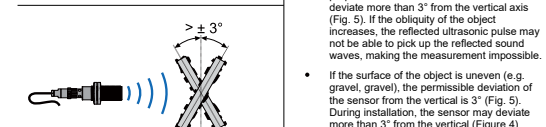
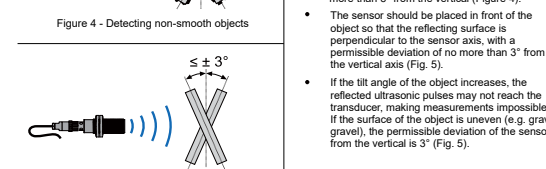

Figure 4 - Detecting non-smooth objects
Figure 5 - Detecting smooth objects
- The sensor should be placed in front of the object so that the reflective surface perpendicular to the sensor axis does not deviate more than 3° from the vertical axis (Fig. 5). If the obliquity of the object increases, the reflected ultrasonic pulse may not be able to pick up the reflected sound waves, making the measurement impossible.
- If the surface of the object is uneven (e.g. gravel, gravel), the permissible deviation of the sensor from the vertical is 3° (Fig. 5). During installation, the sensor may deviate more than 3° from the vertical (Figure 4).
- The sensor should be placed in front of the object so that the reflecting surface is perpendicular to the sensor axis, with a permissible deviation of no more than 3° from the vertical axis (Fig. 5).
- If the tilt angle of the object increases, the reflected ultrasonic pulses may not reach the transducer, making measurements impossible. If the surface of the object is uneven (e.g. gravel, gravel), the permissible deviation of the sensor from the vertical is 3° (Fig. 5).
- During installation, the sensor may deviate from vertical by more than 3° (fig. 4).